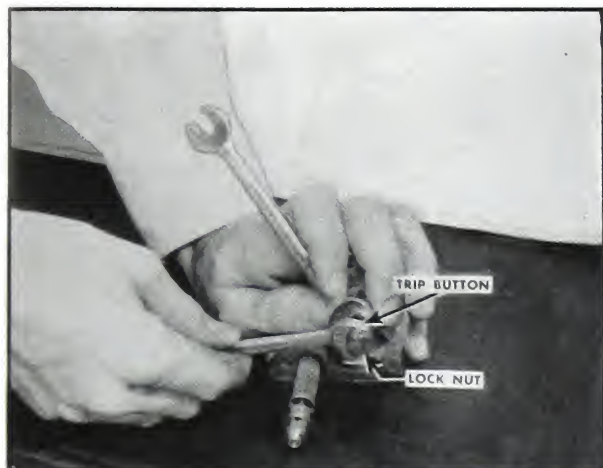

Fig. 5-266. Lock button
- d. The dimension in step "A" plus .060 in step "b" must equal dimension in step "c". If not, screw stop button in or out until they are equal then lock with the jam nut. Fig. 5-266. Check trip action on the test stand with stop assembled to lower housing before the pump is completely assembled.